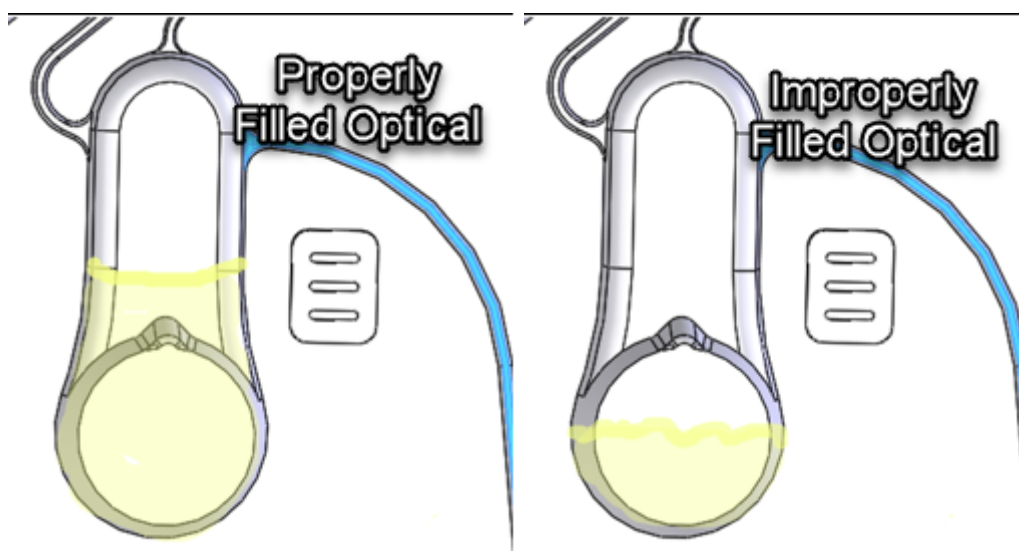

Figure 1 - Optical Well liquid volumes
- 1) Use a magnifier to inspect the optical reaction wells for proper liquid volumes if an invalid (i.e. split well) occurs. This could be an indication of improper pipetting. See Figure 1 Below